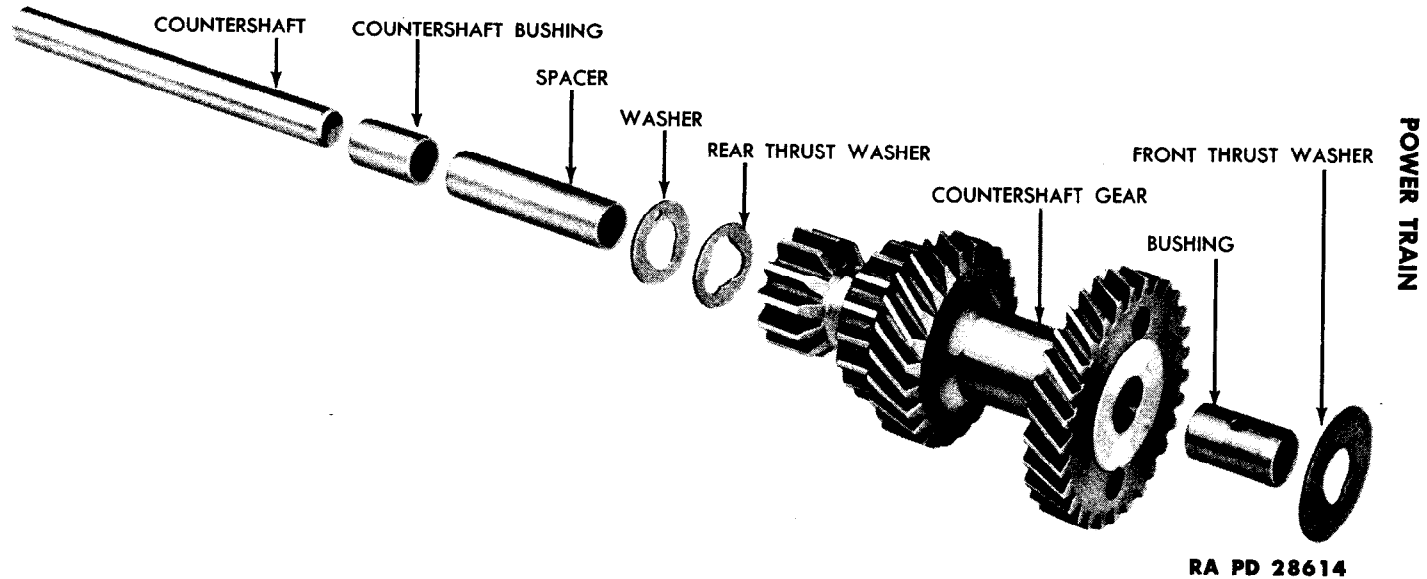

Figure 14 – Countershaft Gear Assembly – Exploded View
h. **Disassemble Countershaft Gear (fig. 14).** Remove the two bushings and spacer from the countershaft gear.
(6) **COUNTERSHAFT GEAR** (fig. 14). Replace excessively worn gears, and gears with broken or chipped teeth, or with pitted or discolored bearing surface due to overheating. Measure the front and rear bearing surfaces of the countershaft gear. If more than 0.7625 inch on either end, replace.
(8) IDLE GEAR SHAFT AND COUNTERSHAFT (figs. 14 and 15). Ridged, scored, or excessively worn, shafts must be replaced. An idle gear shaft measuring under 0.6185 inch or countershaft measuring under 0.7490 inch must be replaced.
(12) COUNTERSHAFT THRUST WASHERS (fig. 14). Replace excessively worn or ridged thrust washers. Measure each thrust wash-
(13) **COUNTERSHAFT BUSHINGS** (fig. 14). Excessively worn, scored, or ridged countershaft bushings must be replaced. Measure the inside and outside diameter of the bushings. If the outside diameter is less than 0.759 inch, or if the inside diameter is more than 0.6225 inch, the bushings must be replaced.
b. **Install Countershaft Gear** (fig. 14). Dip the countershaft bearings into SAE 90 oil. Slide the spacer into the countershaft gear and install a bushing in each end of the countershaft gear. Coat the front thrust washer, rear thrust washer, and steel washer with a light film of grease to hold them in place while installing the gear. Lay the countershaft gear in the case with the large gear toward the front.